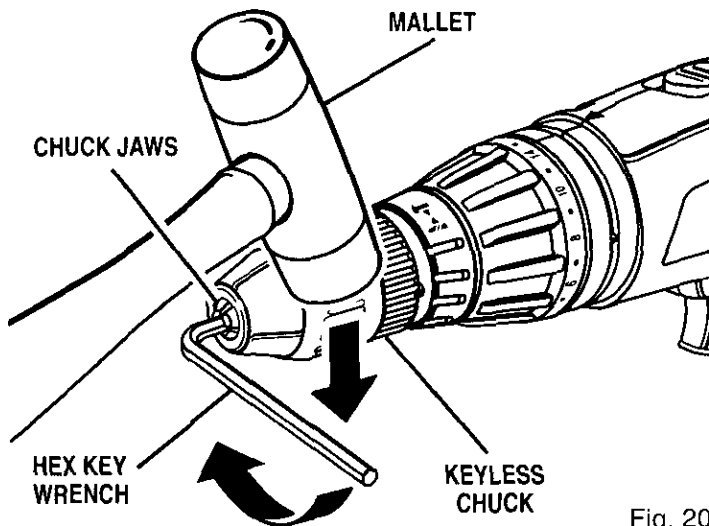

Fig. 20
See Figures 20, 21, and 22.
- Tap the wrench sharply with a mallet in a clockwise direction. See Figure 20. This will loosen the screw in the chuck for easy removal.